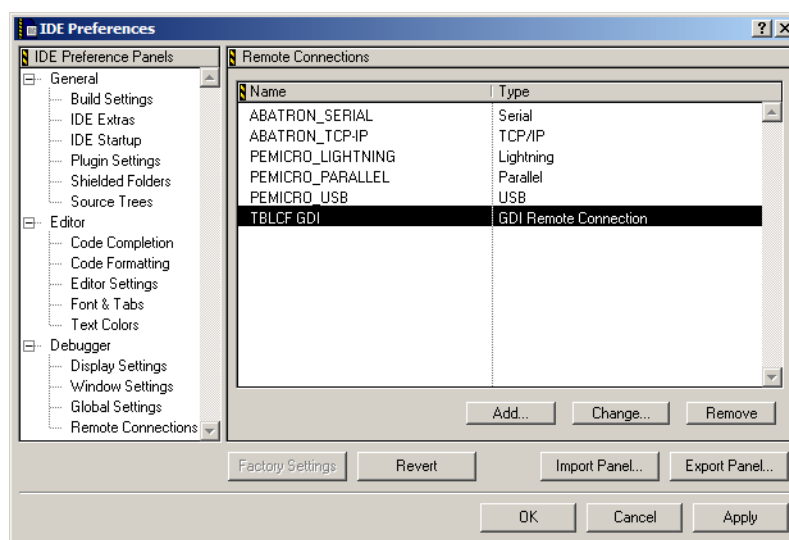

FIGURE 15. “IDE Preferences” dialogue with the new connection
5. The new connection has now been created (see figure 15). Close the “IDE Preferences” dialogue by clicking “OK”.